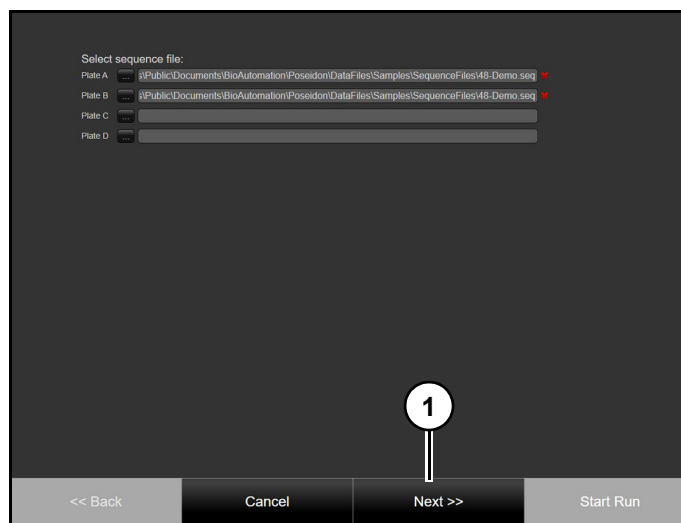

Figure 80
3. Click "Next" (1) (*Figure 80*).